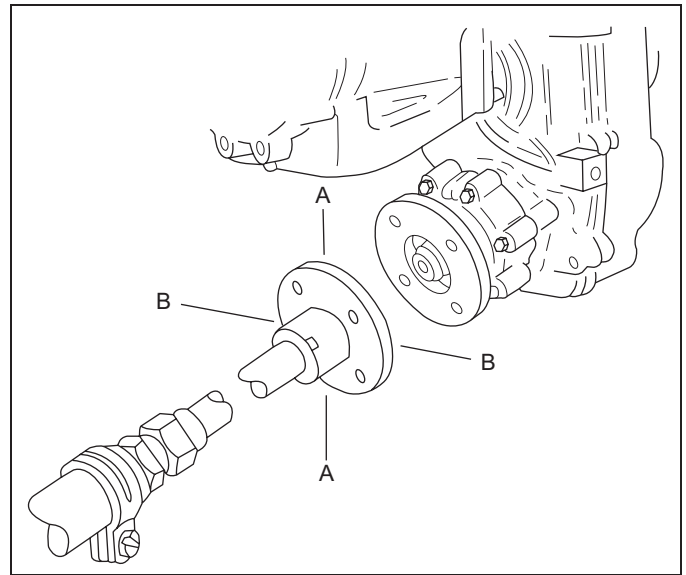

Figure 11-23 Centering Prop Shaft
2. Center the propeller shaft in the shaft log as follows: (Figure 11-23)